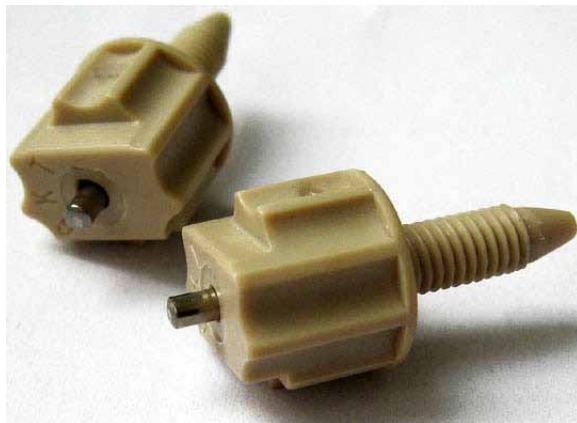

Fig. 19: Original Dionex flow cell plugs
- Plugs are installed at the flow cell in and out connections (→ Fig. 19). Keep the plugs in a safe place. If the detector or the cell is shipped or if the detector is shut down for a longer time period, reinstall the plugs.
- ◆ When shipping the instrument, *remove* the flow cell and install the special cover to protect the flow cell opening. Close the flow cell inlet and outlet with the plugs that were installed when the flow cell was shipped (→ Fig. 19). The flow cell must be shipped in its original packaging.
- During longer idle times, the flow cell should not be filled with pure water to avoid the growth of algae. Add 10% HPLC-grade isopropyl alcohol, for example, and plug the flow cell input and output using the plugs that were installed when the flow cell was shipped (→ Fig. 19). Using different plugs and tightening them may destroy the flow cell.